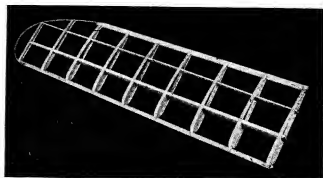

Fig. 18. Completed wing structure.
The picture, Fig. 18, shows one of the finished wing frameworks, and the first step in its manufacture will be the setting out of a full-sized drawing from the particulars given in Fig. 17. It will now be necessary to shape the main spar (A) from a piece of $\frac{1}{16}$ -in. balsa, and the secondary spar (B) from $\frac{1}{16}$ -in. balsa. Also, a fair number of strips of $\frac{1}{32}$ -in. balsa, $\frac{1}{8}$ in. width, will be cut. The leading and trailing edges are both cut from $\frac{1}{16}$ -in. balsa, and are $\frac{1}{8}$ in. wide.
The rib strips are now trimmed with a razor-blade, and sanded down to blend into the leading and trailing edges, when we should have a wing structure similar to that shown in Fig. 18. This shows the left-hand wing (looking from the front of the machine) while the drawing (Fig. 17) shows the right-hand wing. It will be noted that the wings are, there-